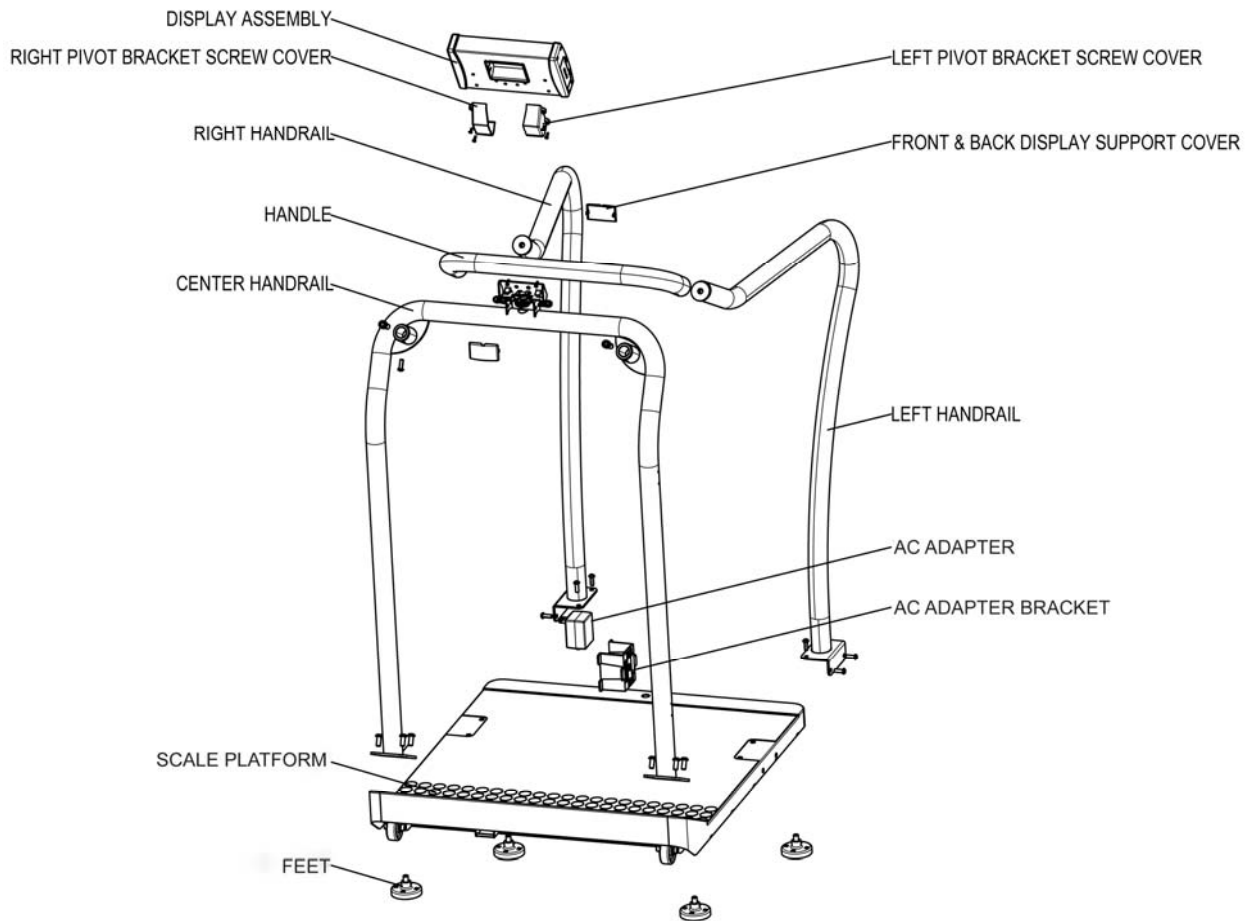

Figure 2
3. Position the center handrail over the platform and feed the cable through the large center hole of the right handrail mounting hole array in the platform. Be sure not to pinch the cable (see Figures 2 & 3).
7. Attach the handle to the back of the center handrail using (2) medium M6 1.0 x $\frac{1}{2}$ screws (C), and lightly tighten (see Figure 2).
10. Pull the excess cable through the top of the center handrail (see Figure 2).
14. Position the display assembly close to the display support. Plug the load cell cable connector into the load cell port on the rear of the display assembly (see Figures 2 & 5).
19. Attach the front and rear display support covers, applying light pressure to snap these covers into place (see Figure 2).